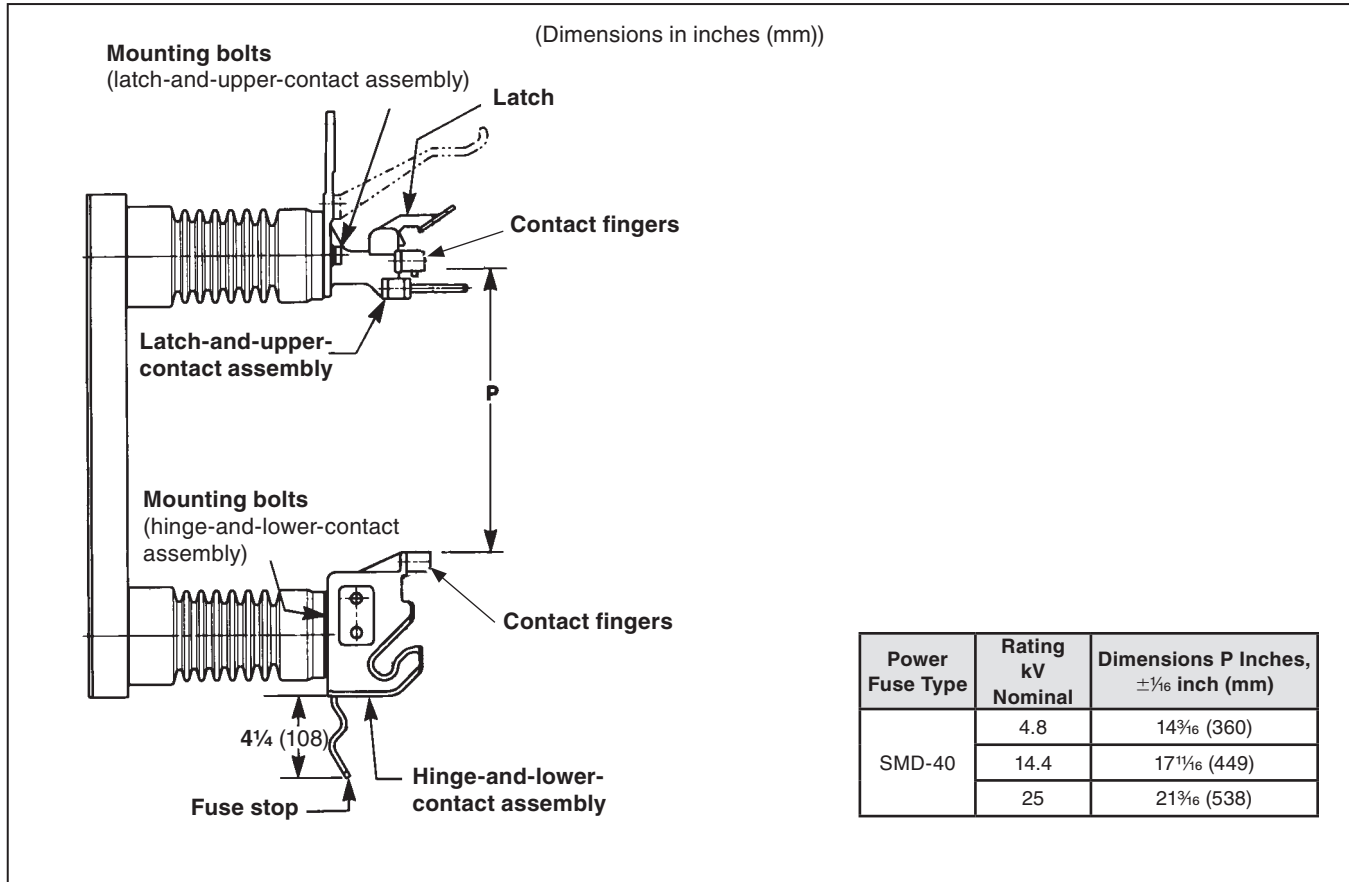

Figure 1. Live-part spacing for S&C Type SMD-40 Power Fuses.
STEP 2. Attach the mounting to a supporting frame or structure, using appropriate hardware (not included with mounting). See Figure 1.
- STEP 1.** Accurately measure the distance between the contact fingers of the latch-and-upper-contact assembly and the corresponding contact fingers of the hinge-and-lower-contact assembly (Dimension P in Figure 1 on page 6). Check that this dimension is within the tolerance established for Dimension P. If adjustment is necessary, loosen the latch-and-upper-contact assembly mounting bolts and move the assembly toward or away from the hinge-and-lower-contact assembly as needed to bring Dimension P within the specified limits. Make sure Dimension P is maintained between the upper and lower contact fingers on both sides of the fuse mounting. Fully tighten the latch-and-upper-contact assembly mounting bolts.
- STEP 2.** Install a fuse unit—with end-fittings attached as directed in S&C Instruction Sheet 252-555—in the hinge-and-lower-contact assembly of the de-energized mounting and slowly close the fuse into the latch-and-upper-contact assembly. Check that the fuse-unit end-fitting makes an “on-center” approach to the contacts on the latch-and-upper-contact assembly. If adjustment is necessary, slightly loosen the hinge-and-lower-contact assembly mounting bolts and, using the holder as a lever, bring the hinge-and-lower-contact assembly into proper alignment with the latch-and-upper-contact assembly. Recheck to be sure Dimension P is still within the specified tolerance. Also, check that the fuse stop is still positioned as shown in Figure 1 on page 6. Retighten the hinge-and-lower-contact assembly mounting bolts.